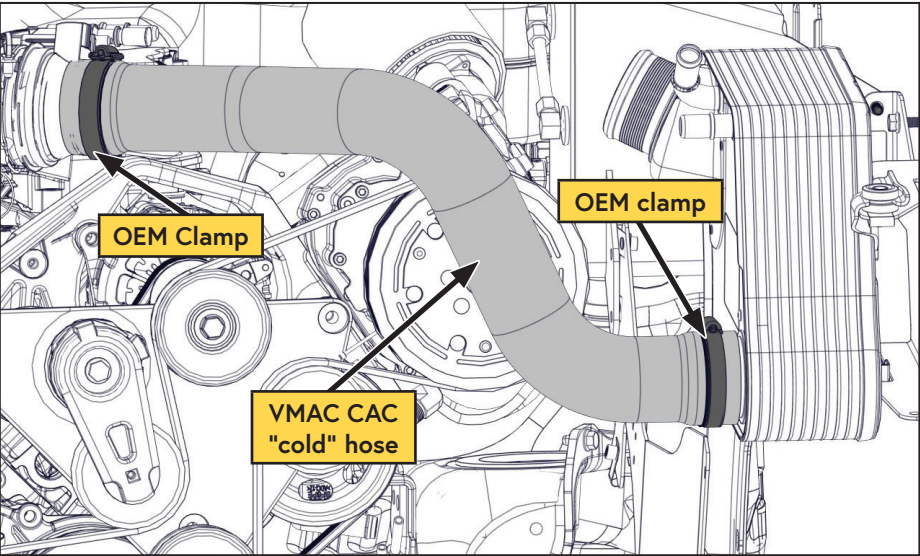

Figure 98 — Installing the CAC hoses
☐ Install the VMAC supplied "cold" CAC hose and secure with OEM hose clamps (Figure 98).
- ☐ Adjust the hose as required to ensure there is a minimum of 3/8" clearance to the compressor clutch (Figure 98).